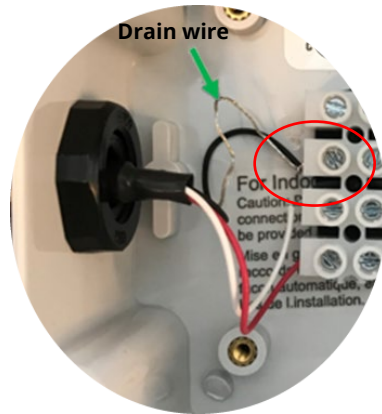

Figure 1
- a) If your box is wired as in Figure 1 with the silver drain wire sharing a screw on the terminal strip with the black ground wire, follow the steps in paragraph 2.